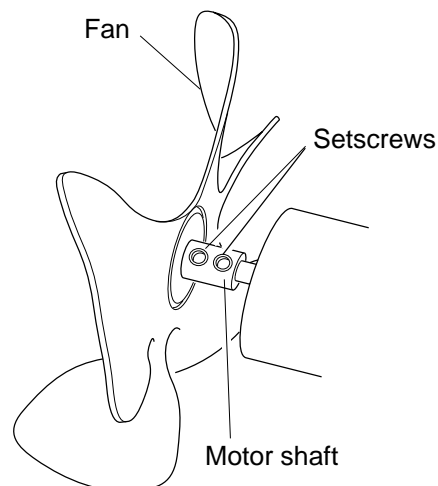

Figure 9 - Fan, Motor Shaft, and Setscrew Locations
11. Use 3,1 mm (1/8") hex wrench to loosen setscrew which holds fan to motor shaft (see Figure 9).